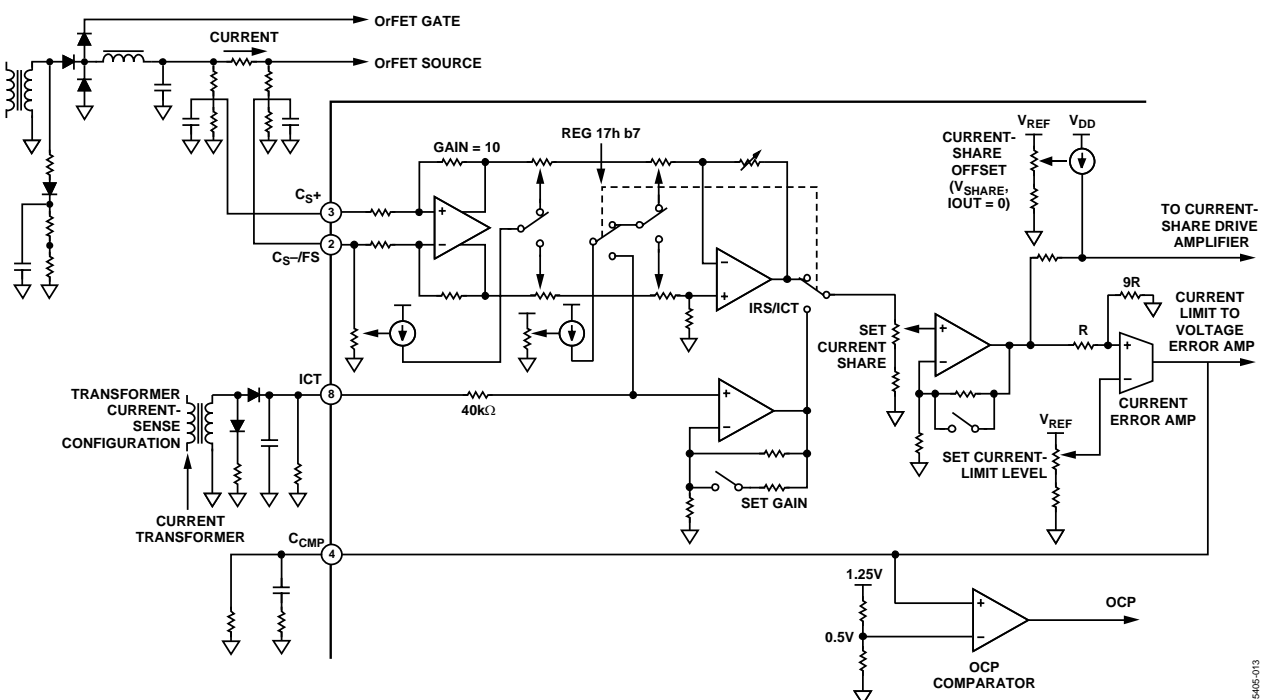

Figure 13. Current Sense
A 1.5 V reference is connected to the inverting input of the voltage error amplifier. This 1.5 V reference is the output voltage of the soft-start circuit. Under closed-loop conditions, the voltage at the noninverting input is also controlled to 1.5 V. During start-up, the output voltage should be ramped up in a linear fashion at a rate that is independent of the load current. This is achieved by digitally ramping up the reference voltage by using a counter and a DAC. The ramp rate is configurable via the SMBus. See Figure 13.
This is a two-stage differential amplifier that achieves low offset and accuracy. The amplifier has the option to be chopped to reduce offset or left as a linear amplifier without chopping. Refer to the Register Listing for more details. The amplifier's gain can be selected from three ranges. It is followed by a trim stage and then by a low gain buffer stage that can be configured with a gain of 1.0 or 2.1. The result is a total of six overlapping gain ranges (65 to 230), one of which must be selected via the SMBus. This gives ample adjustment to compensate for the poor initial tolerance of the resistance wires typically used for current sensing. It also allows selecting a higher sensitivity for better efficiency or a lower sensitivity for better accuracy (lower offset). The amplifier offset voltage is trimmed to zero in a once-off operation via the SMBus and uses a voltage-controlled current source at the output of the first gain stage. A second controlled current source is used to trim out the additional offset due to the mismatch of the external divider resistors. This offset trim is dynamically adjusted according to the common-mode voltage present at the top of the voltage dividers. Six ranges are selectable according to the magnitude and polarity of this offset component. Because the offset compensation circuit itself has some inaccuracies, the best overall current-sense accuracy is obtained by using more closely matched external dividers and then selecting a low compensation range. See Figure 13.
Current is typically sensed by a low value resistor in series with the positive output of the power supply, positioned just before the OrFET or diode. For high voltages (12 V and higher), this resistor is usually placed in the negative load. A pair of closely matched voltage dividers connected to Pins 2 and 3 divide the common-mode voltage down to approximately 2.0 V. The divider ratio must be the same as used in the local and remote voltage-sense circuits. Alternatively, current may be sensed by a current transformer (CT) connected to Pin 8. The ADM1041A must be configured via the SMBus to select one or the other. See Figure 13.
required. It is possible to fine trim this current via Register 15h, Bits 4–0, step size 170 nA. For example, 2.5 μ A \approx 15 \times 170 nA; so the code for Register 15h is decimal 15 or 0Fh. Refer to the Current Transformer parameter in the Specifications table for more details. See Figure 13.
This is a low gain transconductance amplifier that takes its input from one of the calibrated current stages described previously. The amplifier requires only the output pin for loop compensation, which typically consists of a series RC network-to-common. A trimmable reference provides a wide range of adjustment for the current limit. When the current signal reaches the reference voltage, the output of the error amplifier comes out of saturation and begins to drive a controlled current source. The control threshold is nominally 1.0 V. This current flows through a resistor in series with the trimmed voltage loop signal and thereby attempts to increase the voltage signal above the 1.5 V reference for that loop. The closed voltage loop reacts by reducing the power supply's output voltage and this results in constant current operation. See Figure 13.